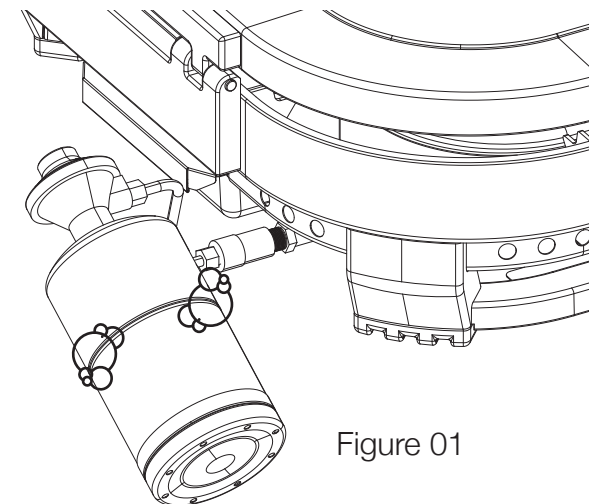

Figure 01
1. Use a clean paintbrush to brush a 10/90 mild soap-and-water solution onto joint areas of the LPG cylinder (indicated by arrows in Figure 01).